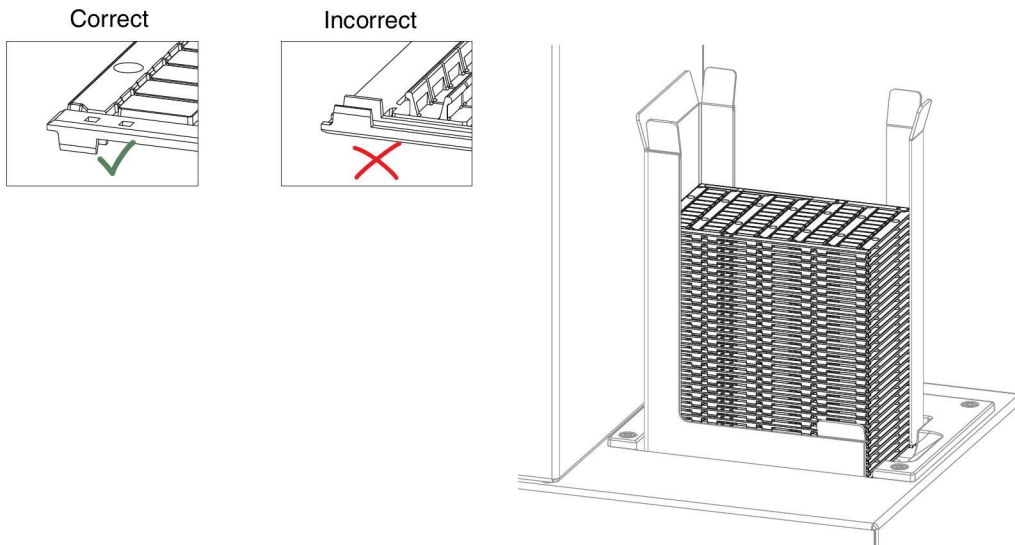

Figure 3-2 Loading UCT material
**NOTE:** Make sure that the material is loaded with the marking side facing up (see Figure 3-2).